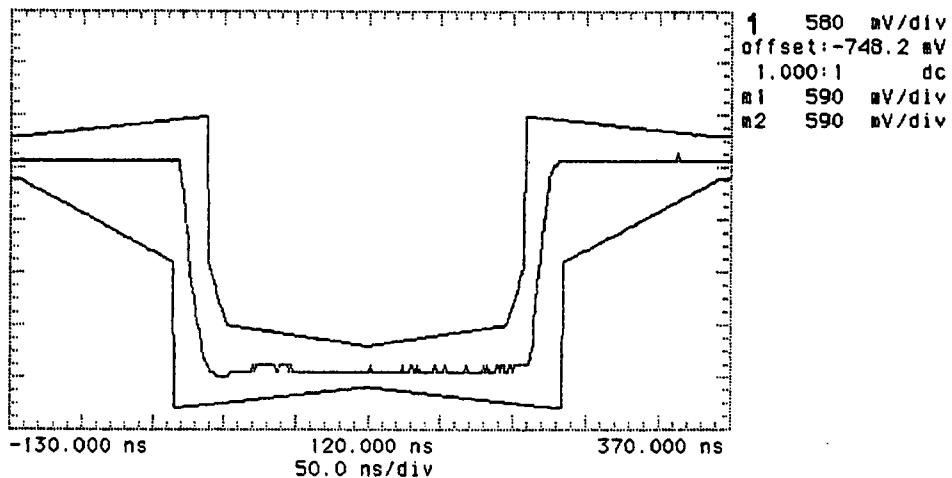

Figure 3-5. 2 Mb/s Isolated Negative Pulse
20. Adjust the oscilloscope timebase and vertical sensitivity controls to verify that the pulse meets the mask as shown in Figure 3-5. Use the displayed settings as a guide.